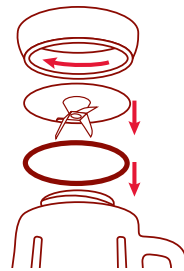

Figure 6
6. Turn the Blending Jar upside down and unscrew the Jar Base counter clockwise (to the left). Carefully remove the Blending Blade, and Blending Blade Sealing Ring. *Figure 6*